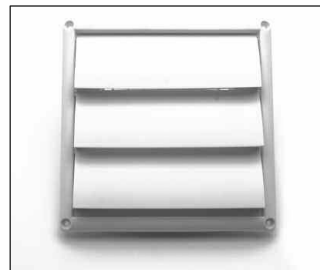

Fig. 8
Step 5: Connect outlet of fan to outside vent (Fig. 8). The outside vent may go through the roof, sidewall or soffit as desired. Flexible, nonmetallic ducting is recommended for quietest operation and easiest installation. Insulated flexible ducting is highly recommended for bathroom ventilation in all cold climate installations.